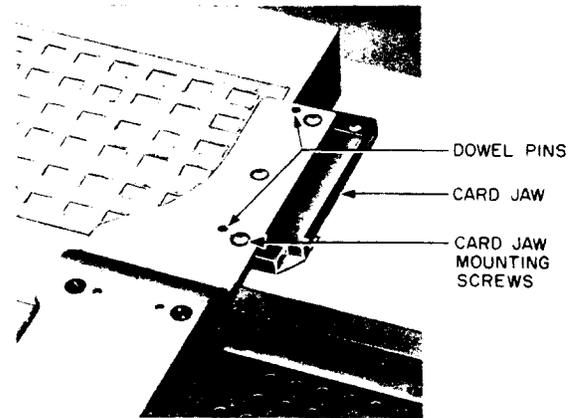

Fig. 30 – Card Nest Jaws With Plate for Supporting Card
- (4) Turn the power switch off. Unlock the carriage. Remove the card jaw mounting screws using the proper size Allen wrench.
- (5) Move the carriage to position the left-hand card jaw over the well previously occupied by the punch and die assembly as shown in Fig. 30.
- (6) Lightly tap the card jaw to remove it from the dowel pins using the 4-ounce riveting hammer. Position one or more 200A blanks under the carriage arm, as shown in Fig. 30, to serve as shims in the space between the arm and the carriage. Then, drive the dowel pins out of the arm using the hammer and 1/8-inch drive pin punch. Remove the blanks.